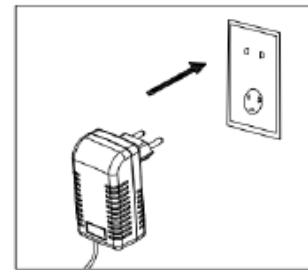

Fig19
4. Plug the charger’s power cord into 120V wall outlet (Fig 19)